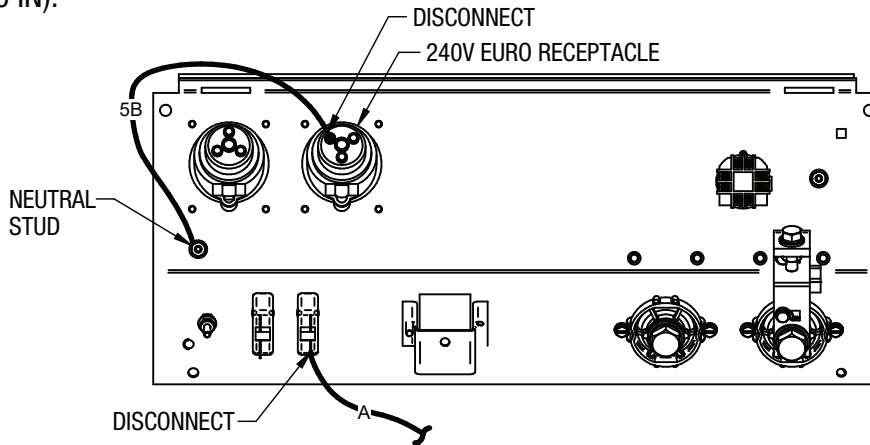

FIGURE 2
4. PER FIGURE 2, DISCONNECT LEAD 5B FROM 240V EURO RECEPTACLE.